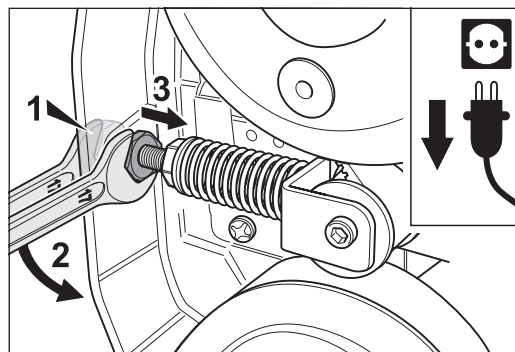

Fig. 83 Twist the counter nut to the clamping nut.
- 4 Twist the counter nut to the clamping nut (fig. 83).